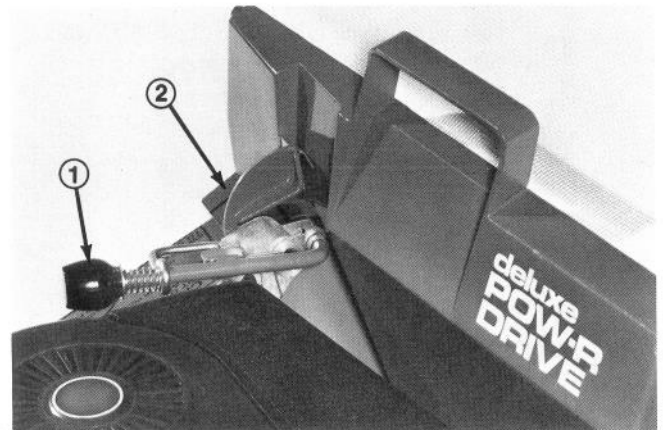

Figure 17
3. Slide guide hole in bag door onto locating stud on mower housing (Fig. 17); then rest rear of bag frame onto handle pins.